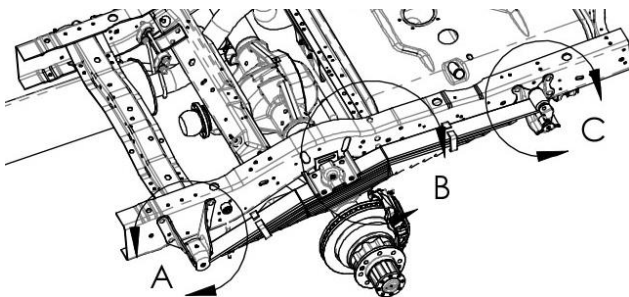

Figure 5. Rivet removal locations. Driver side shown. Remove rivets on passenger side also.
6. Remove the front leaf hanger and rear leaf shackle hanger brackets. The rivets can be removed by grinding, air chiseling, or torching off the heads. Then use a hammer and punch to remove the remainder of the rivet. See Figure 5.